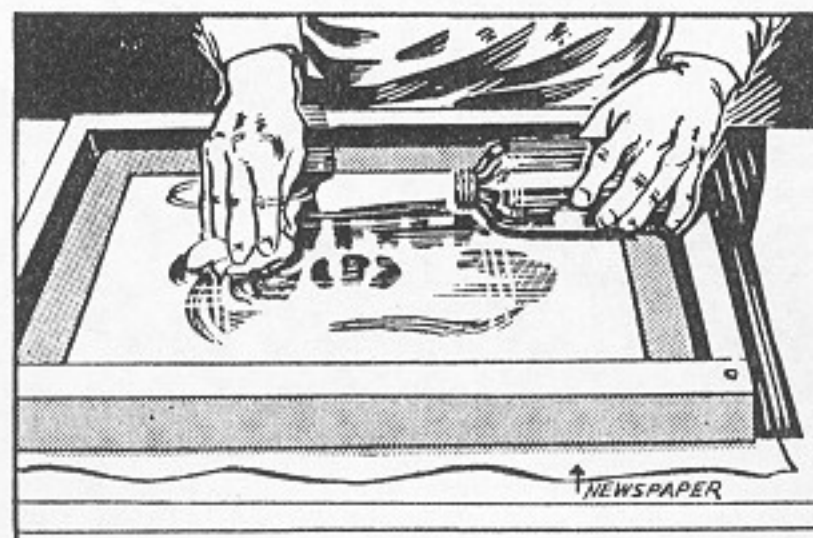
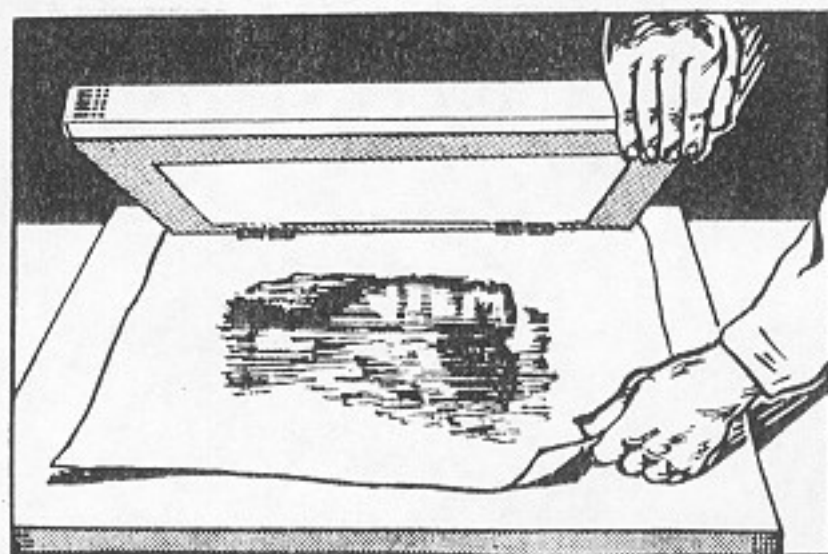

Fig. 130. Remove Film from Stencil
Fig. 131. Dissolved Film Adheres to Paper
23. Saturate a piece of cloth with lacquer thinner and rub it over the film portions of the screen, Fig. 130. After a few minutes, lift the frame and pull the newspaper away from the screen. Do this once or twice and it should remove nearly all of the film, Fig. 131.